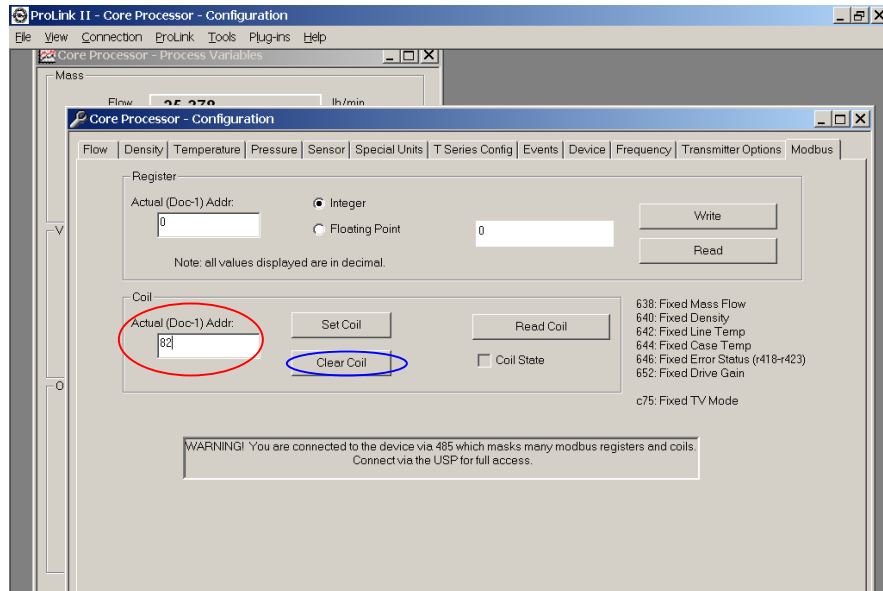

Figure 1
5. In the Coil box, type "82" in the Actual (Doc-1) Addr. Window (Figure 1).
6. Click the CLEAR COIL button (Figure 1).